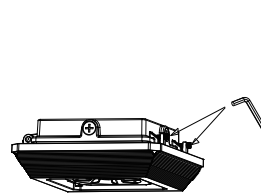

FIGURE 2-1
1. Disassemble the driver box cover by loosening the two screws on the driver box (Figure 2-1)